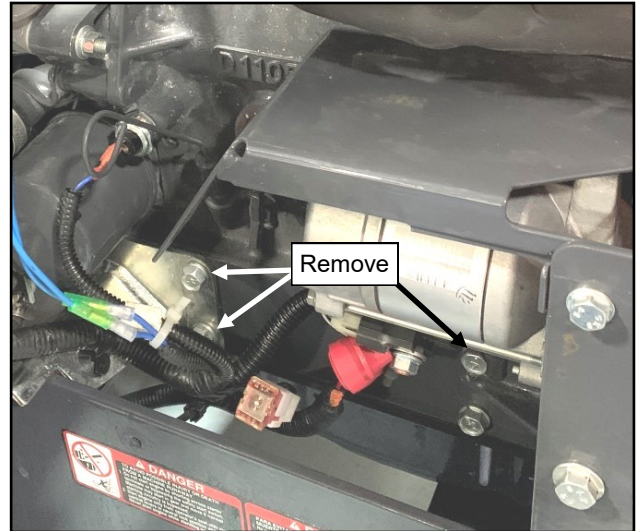

Fig. 1.6 (Remove bolts)
- 1.6 Remove and discard three bolts from the left side of the engine as shown in fig. 1.6.